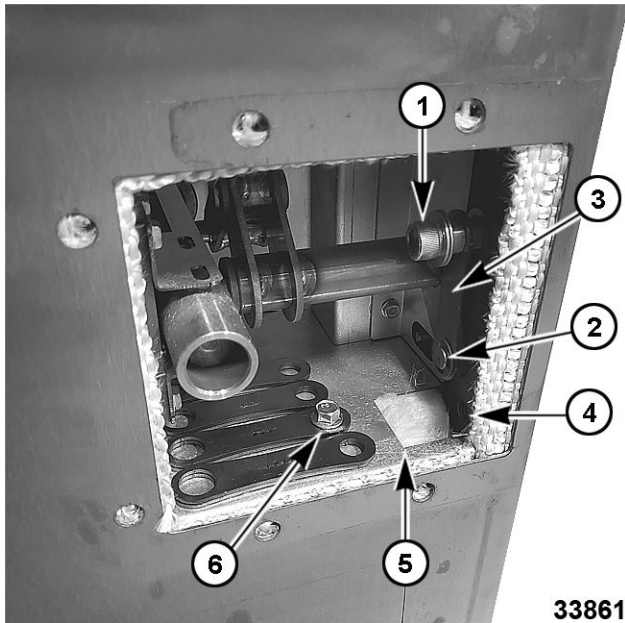

Fig. 68
NOTE: To prevent hardware from dropping into the inside of the door, cover the open space (5, Fig. 68) under latch arms.
- B. Remove 3/8" bolt (1, Fig. 68). DO NOT discard the tube, bolt, or washer.
- C. Remove E-clip and pin (2, Fig. 68). DO NOT discard the E-clip or Pin.
- D. Replace two latch arms (3, Fig. 68) with parts supplied. Reassemble inner mechanism, making sure linkage arms are located in the up position. Place unused arms in latch box and secure with 1/4-20 x 3/4" hex head serrated flange screw (6, Fig. 68). Reattach inner door handle.
NOTE: For left hand hinge, bolt and arms must be flipped and mounted to left-hand hinge hole (4, Fig. 68). Place unused arms in latch box and secure with 1/4-20 x 3/4" hex head serrated flange screw (6, Fig. 68).